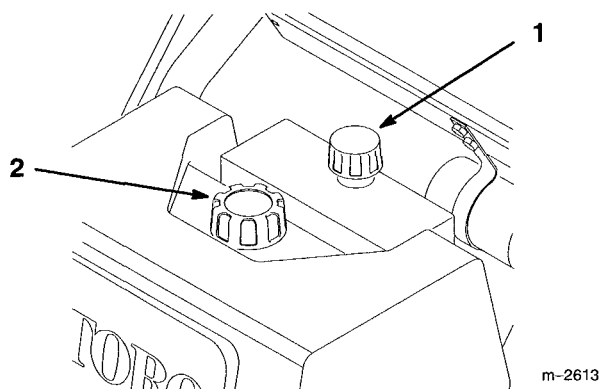

Figure 28
2. Clean area around filler neck and cap/dipstick of hydraulic tank (Fig. 28).